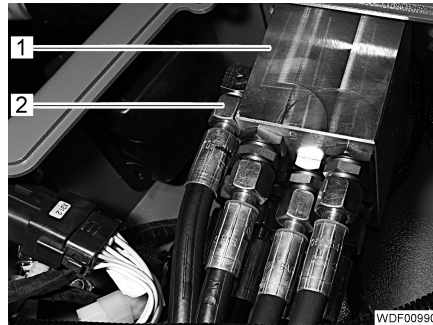

Fig. 260 Hydraulic lines
- Unscrew the 8 hydraulic lines (Fig. 260,2).
- Remove the pilot control (Fig. 260,1) upwards.
- Insert new pilot control (Fig. 260,1) from above.
- Screw the 8 hydraulic lines (Fig. 260,2) onto the connections on the pilot control and tighten.